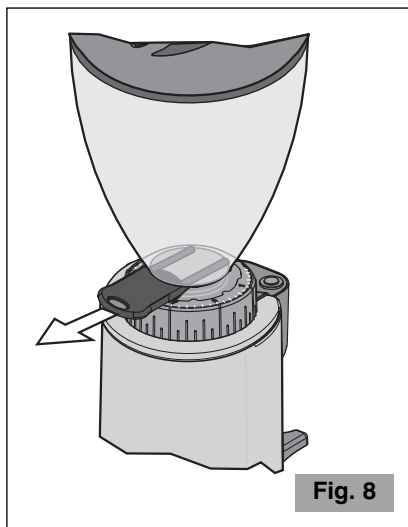

Fig. 8
**Make sure that shutter is completely open (to the last click) (see Fig. 8).**